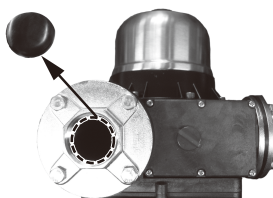

Fig. 2
6. For TQ1500/2200/3700, please cut out the center of the rubber gasket inside the inlet and outlet flanges as it will block the water flow.(See Fig 2)